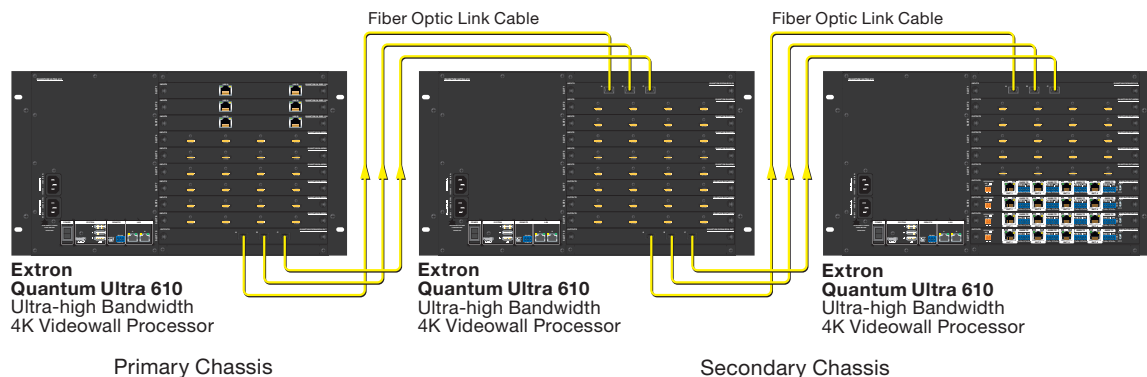

Figure 4. Expansion Card Connection
1. Connect three MPO cables between **Expansion OUT card** connectors A, B, and C of the **primary** chassis and **Expansion IN card** connectors A, B, and C of the **first secondary** chassis in the chain. Always connect output A to input A, output B to input B, and output C to input C (see figure 4).
2. Connect the three expansion outputs of each subsequent secondary chassis to the expansion inputs of the next chassis until all the desired chassis (up to five) are connected (see figure 4).